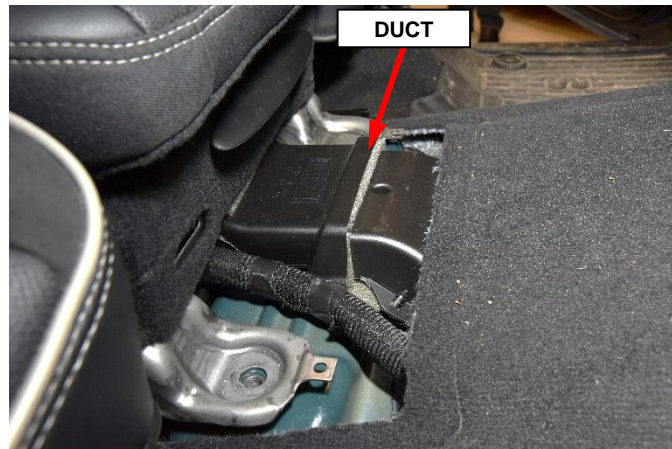

Figure 13 – Air Duct
12. Pull slightly rearward to separate the air duct under the seat, then lift out and remove through the rear door (Figure 13).
21. Position the front center seat into the vehicle and locate it to the front air duct (Figure 13).